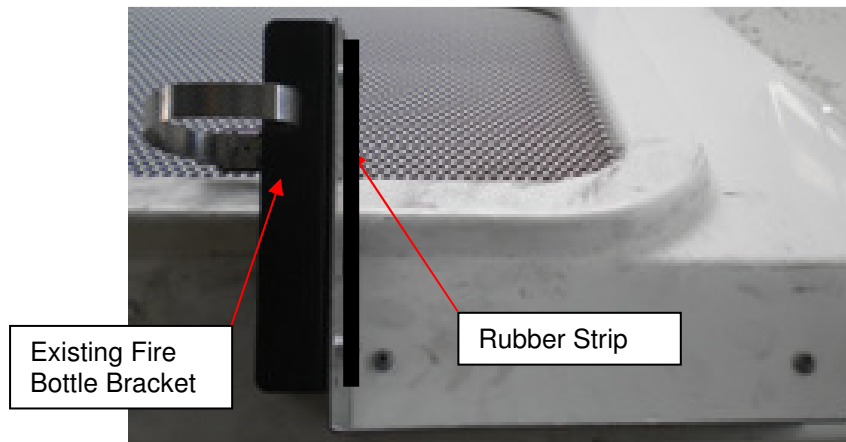

Fig 10 – Fire suppression bracket location
- m. Re install existing fire suppression brackets to the new mounting brackets **NFI PN 485040** using existing hardware and place rubber strip (**NFI PN 362428**) on the opposite ends of the bracket. Fig 10